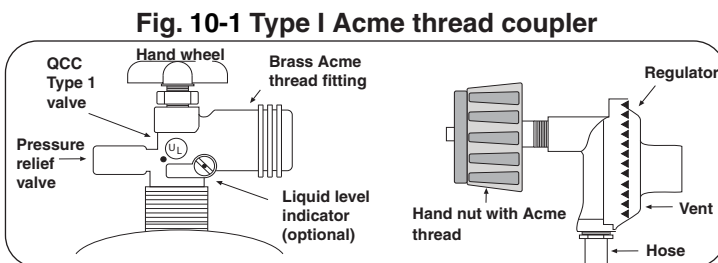

Fig. 10-1 Type I Acme thread coupler
- The pressure regulator and hose assembly used must match the specification for Type I by *ANSI Z 21.58/CGA 1.6* (see Fig. 10-1).
To disconnect: Turn the hand nut counterclockwise until detached (Fig. 10-1).